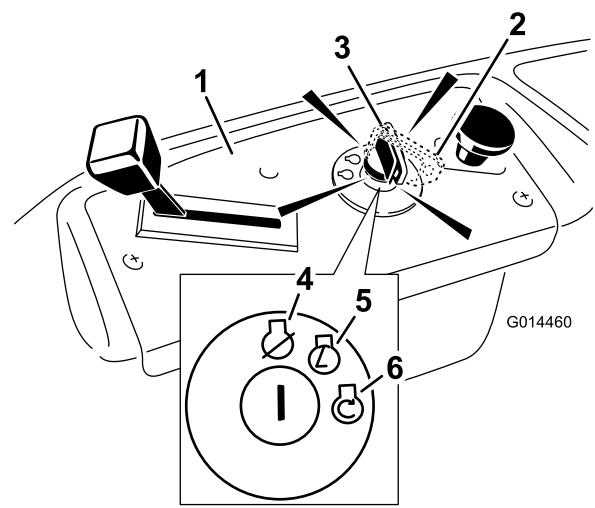

Figure 14
4. Turn the ignition key to Start to energize the starter. When the engine starts, release the key (Figure 14).
2. Move the throttle lever to Fast (Figure 14).